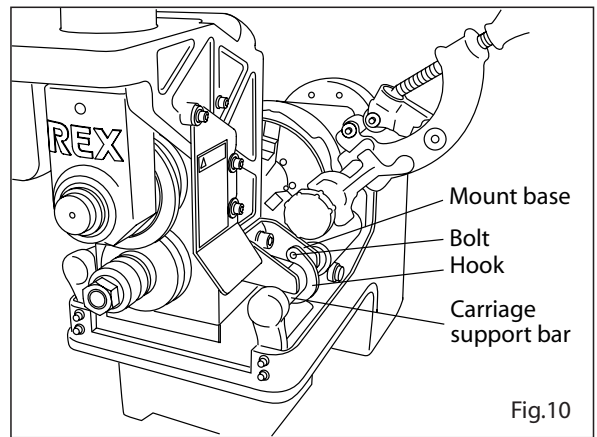

Fig.10
- 3) Place the mount kit on the carriage support bar, and tightly secure the connecting shaft in the front chuck. (Fig. 10)